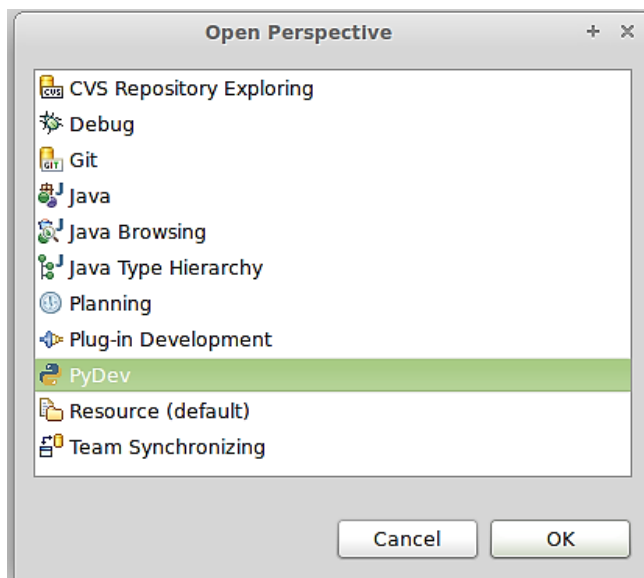

Figure 71: Setting PyDev Perspective in Eclipse
- In the Project/PackageExplorer view on the left, right-click on the project, PyDev-> Set as PyDev Project (Figure 71)
Switch to the PyDev perspective (Figure 71).